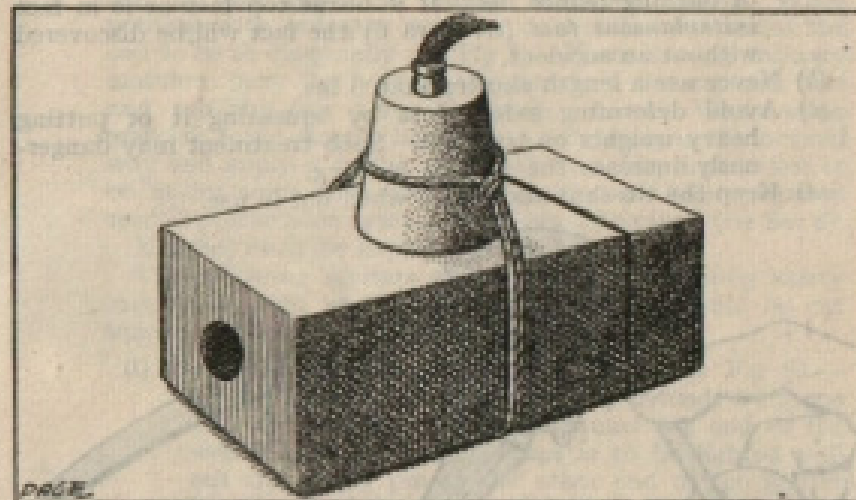

Fig 4. CE/TNT slab with primer, detonator and safety fuze
- (b) *Initiation*.—The slab is satisfactorily initiated with a 1 oz. primer lashed on as shown in Fig 4.